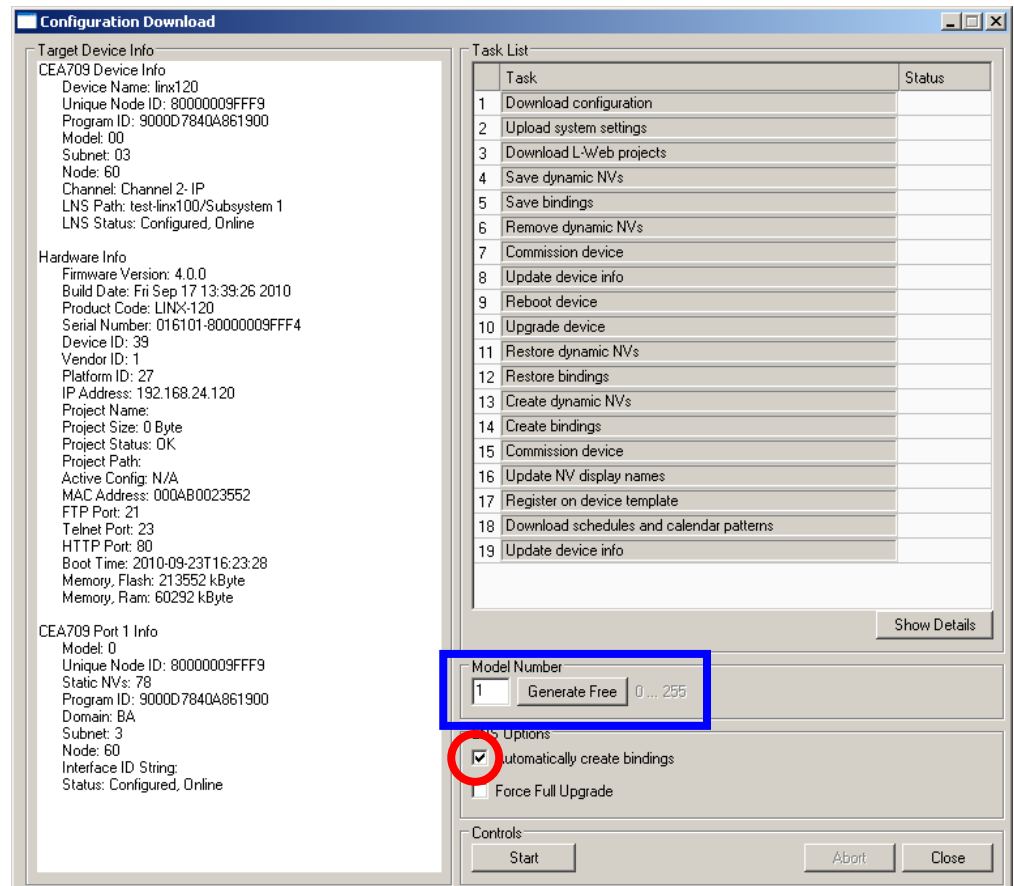

Figure 145: Configuration Download Dialog via LNS.
2. If no bindings shall be generated, deselect the **Automatically create bindings** checkbox indicated by the red circle in Figure 145.